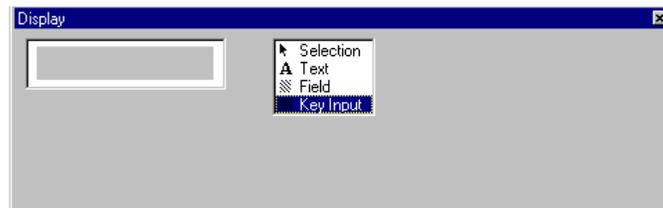

Figure 2-59 Key Input Tool Selected
1. Click the **Key Input** tool (Figure 2-59).